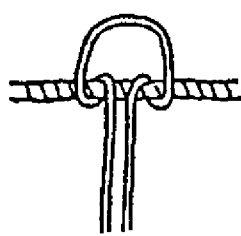

Fig. 3-31-2
- b. Pull both ends of the rope through the loop at the same time from behind the thick rope. (Fig. 3-31-2)
- Note: If tightened at the 'b' stage (Fig. 3-31-2), this type of nondoubled fastening is also known as a cow hitch or lark's hitch.